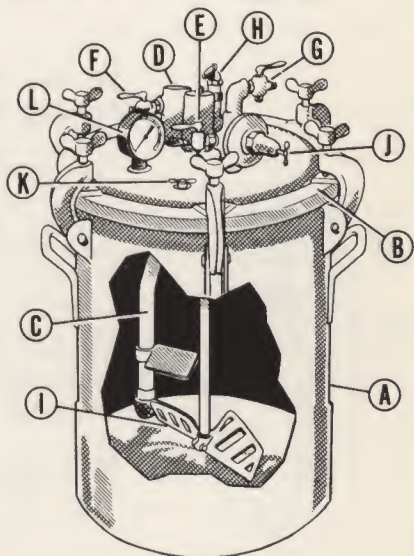

Fig. 48
54. What are pressure feed tanks and where are they recommended? (Fig. 48)
55. How many types of tanks are there? (See Fig. 48)